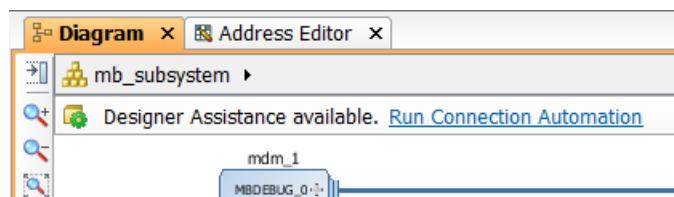

Figure 107: Run Connection Automation
1. Click Run Connection Automation (Figure 107).